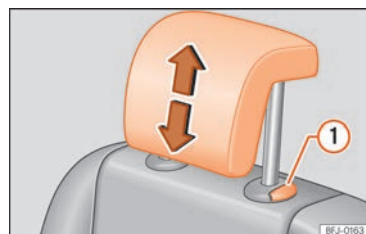

Fig. 97 Rear head restraint: removal.
- Remove the head restraint completely while pressing button >>> **Fig. 97 ①**.